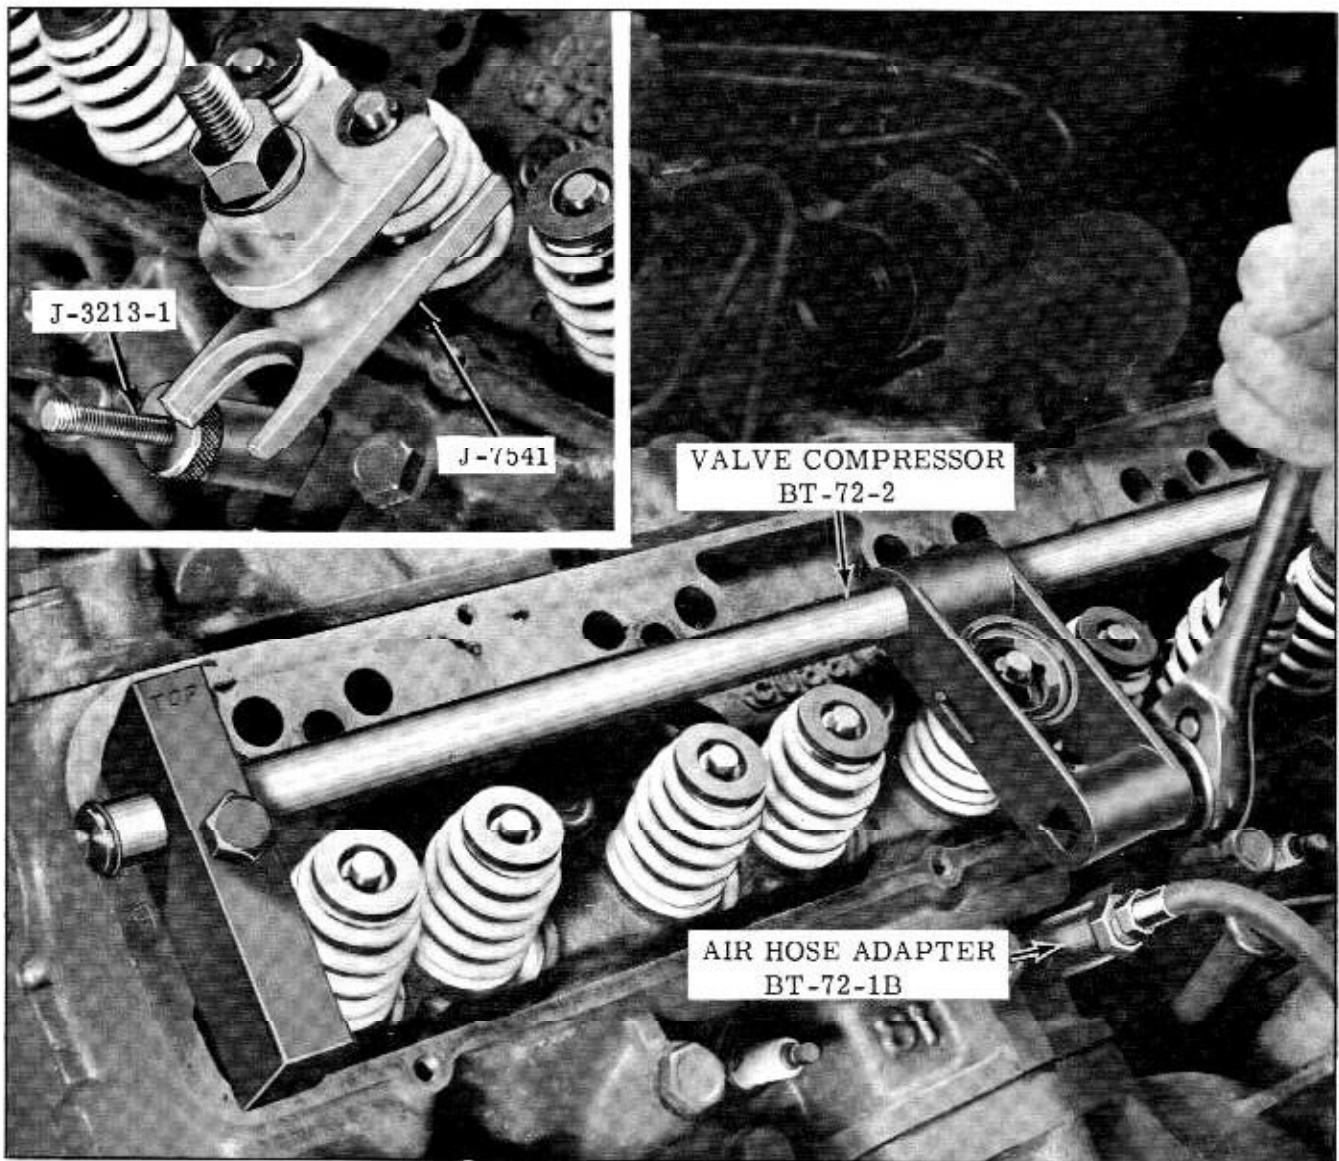

Fig. 8-8 Compressing Valve Springs
3. Install valve compressor on cylinder head as shown in Fig. 8-8. Compress valve spring until valve keys are accessible, then remove